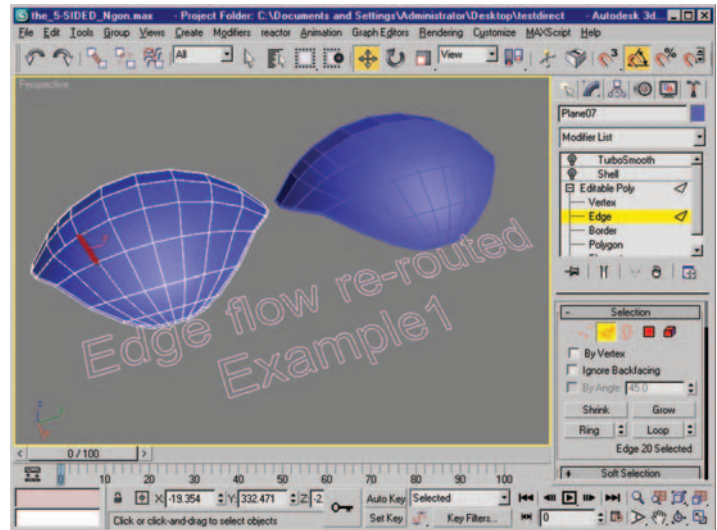

Figure 6.59 Select the highlighted edge.
1. In the same 3ds Max file, move over to the meshes labeled “Edge flow re-routed Example 1” in the viewport (Figure 6.59).
2. Select the edge highlighted in Figure 6.59.